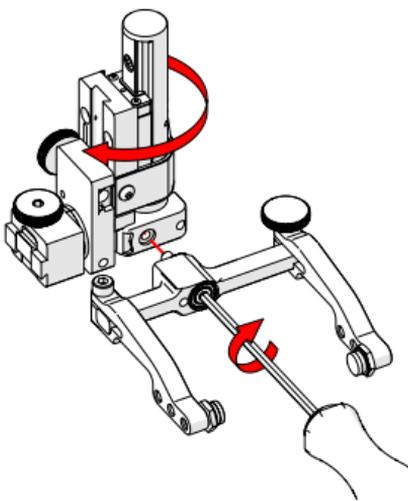

Fig. 84 - Screw yoke to opposite side
6. Mount the yoke to the opposite side of the base using the supplied 3 mm hex driver (Fig. 84).